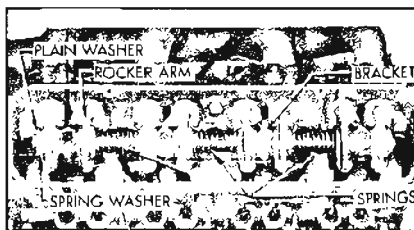
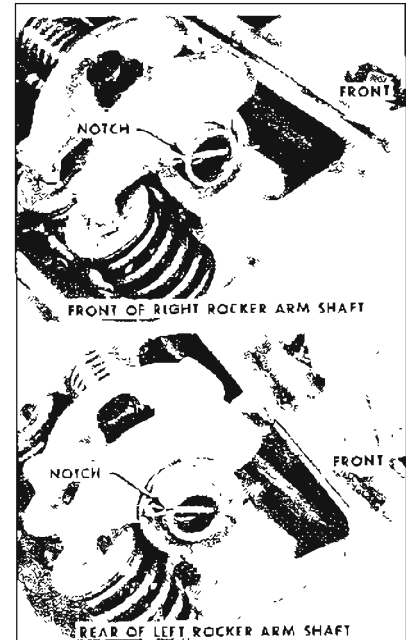

Figure 2-22—Rocker Arm Shaft Assembly (V-8 shown)
Figure 2-23—Rocker Arm Shaft Installation
4. Assemble springs, rocker arms and brackets on shaft as shown in Figure 2-22. Take care that the assembly for the right side has the notch in the shaft forward and the left side has the notch to the rear. See Figure 2-23.
6. Install bolts with plain washers through the brackets and shaft so the notch in the right assembly is up and to the front and the notch in the left assembly is up and to the rear. See Figure 2-23.
3. Check notch on one end of rocker arm shaft. Be sure it is positioned as shown in Figure 2-23.